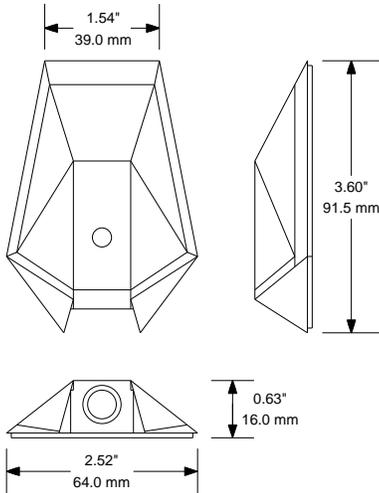

Figure 1
**To shorten the cable:** Remove the cable from the module, and cut it to the desired length (allowing a few extra inches). Next, after sliding the case back onto the cable, tie a single knot in the cable about two inches from the cut end. Following Figure 1 on the back of this sheet, cut the cable off 1" down from the top of the knot and carefully remove 1/2" of the outer jacket. Strip the mic cable wires and attach them to their respective terminals. Reassemble the module following the instructions in the previous paragraph.